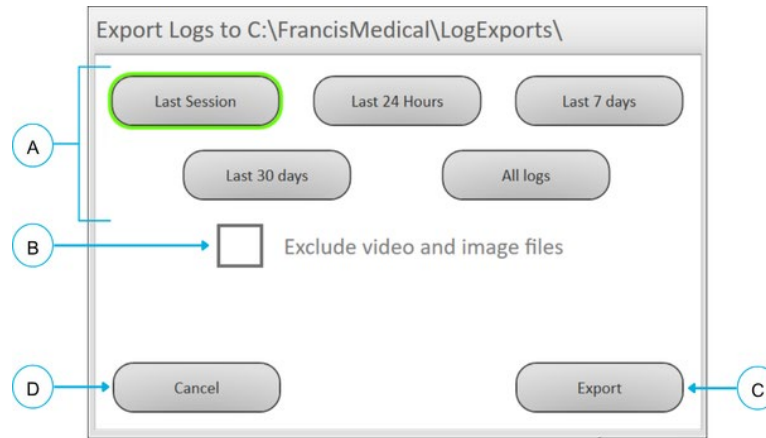

Figure 7-16: Export Logs window
The Export Logs option allows the user to save system log data to a USB drive. Logs can be filtered by time range, and video/image files may be excluded to reduce export time and file size (**Figure 7-16**).
- The Export Logs window is displayed (**Figure 7-16**)
4. Select the desired time range (A). The selected option will be highlighted in green:
5. **(Optional)** Select the Exclude video and image files checkbox (B) to exclude large media files.
6. Select **[Export]** (C) to save the selected logs to a USB drive.
7. Select **[Cancel]** (D) to exit without exporting.